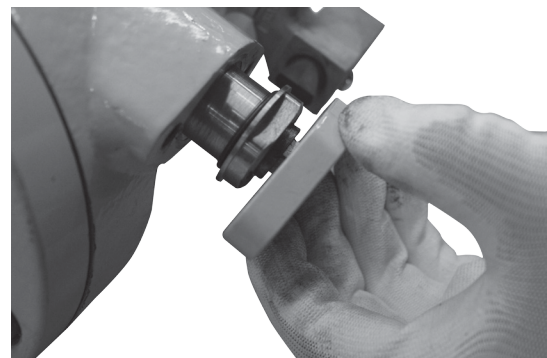
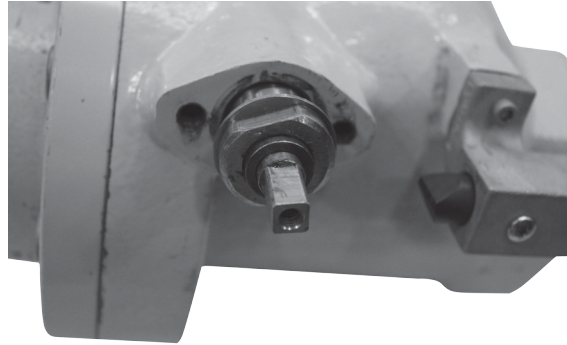

Figure 18. Install follower bearing (step 8)
Figure 19. Follower bearing (step 8)
8. Install the follower bearing and press it in place with the gland retainer, Figure 18. The bearing will extend about 1/8-in. / 3.2 mm from the gland, Figure 19.